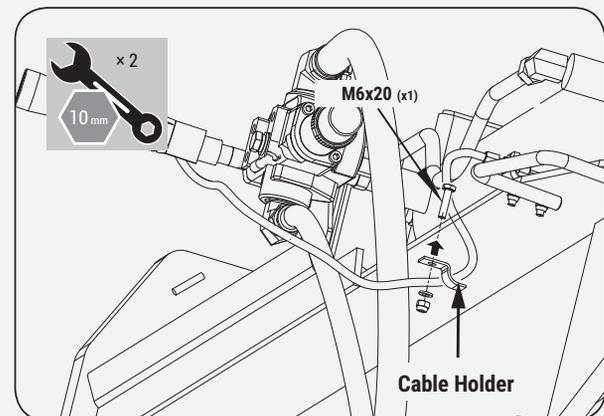

Figure 16
1. Secure the cable onto the bottom of the beam via cable holder. (See **Figure 16.**)